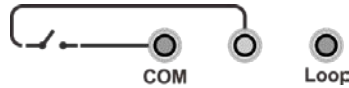

Figure 15 Mechanical switch
(2) The calibrator supports mechanical switch, NPN and PNP electronic switches. The circuit connection of mechanical switch is shown in Figure 15. The electronic switches can be connected through internal power and external power connections. Refer to Figure 16 and Figure 17.